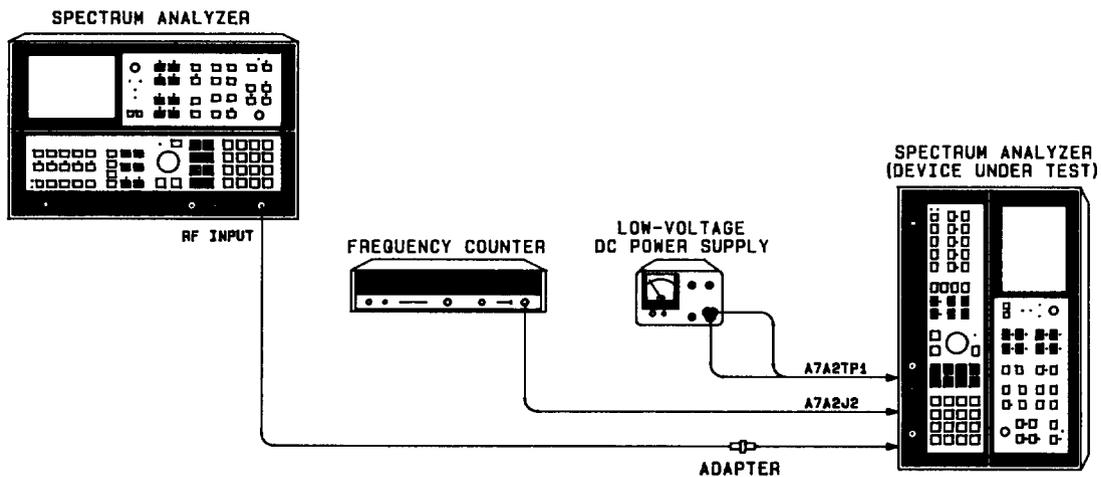

FIGURE 48. 100 MHz VCXO ADJUSTMENT SETUP
1. Position instrument on right side as shown in Figure 48 with bottom cover removed.